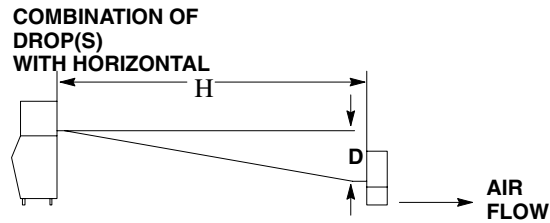

FIGURE 26
- b. Insert measured drop (D) into formula and multiply by 6.6 to get a calculated drop (See Figure 26).